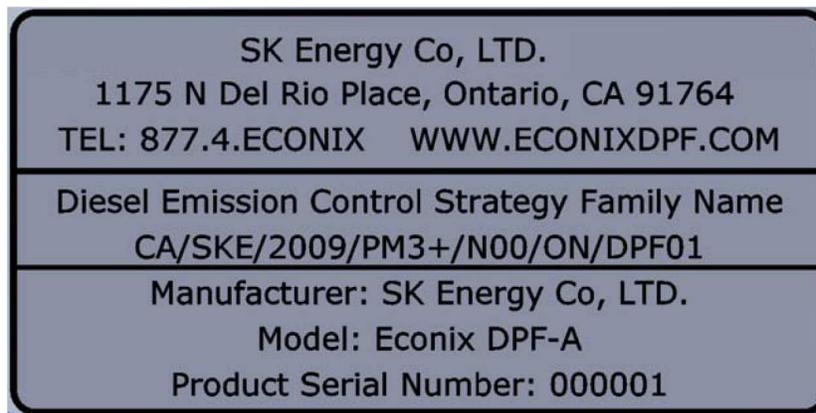

Figure 3: Econix DPF-A system label for filter and engine
- Every filter will come with a product label already attached and a duplicate label to be attached to the engine that the filter will be installed on. The serial number of the filter must match the serial number that is on the engine label. Figure 3 is a schematic of the label that will come with the system.